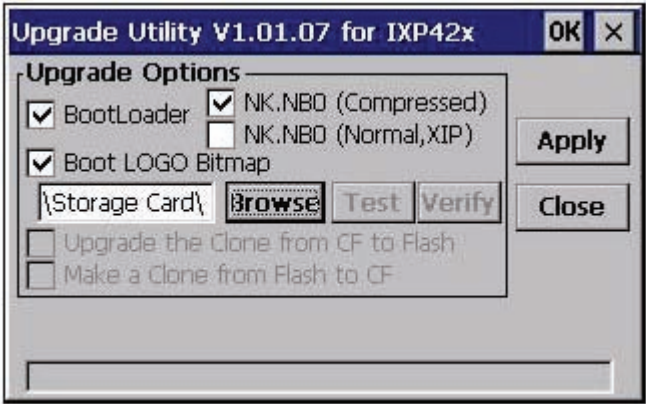

Figure 4.9: Press Apply button to upgrade on-board flash ROM
4. Press the 'Apply' button. The items you selected will be written to the flash ROM. See Figure 4.9.